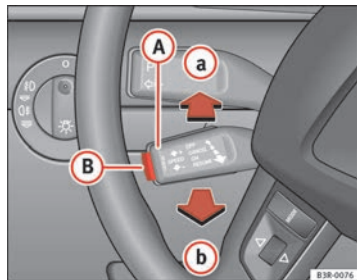

Fig. 152 Controls for the cruise control system
- press the lever (A) ⇒ fig. 152 to position (a) (click stop not engaged).